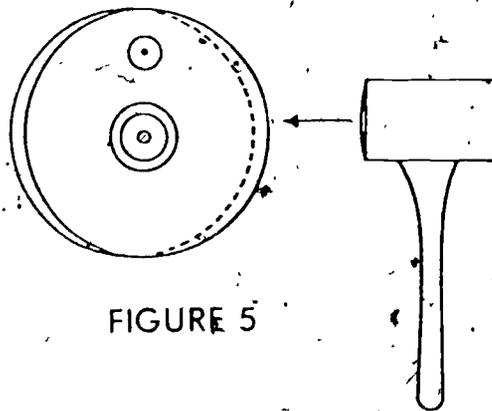

FIGURE 5
- Tap crankwheel lightly with soft face hammer at mark (Figure 5)